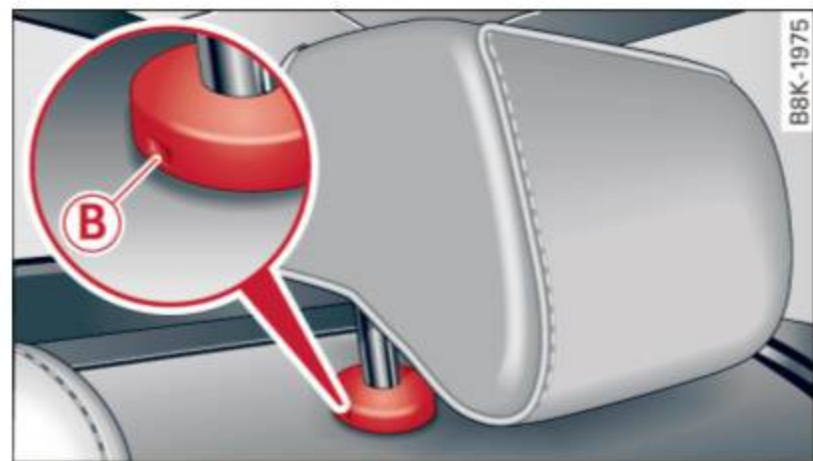

Fig. 63 Rear head restraints: release
- ▶ Press the release  ⇒ *fig. 63* with the mechanical key ⇒ *page 34* and the button  ▶